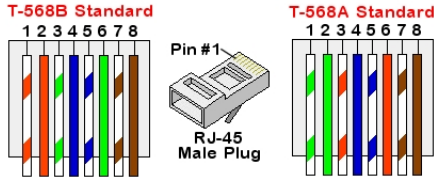

Figure 26: Standard cable wiring
- c. Insert the eight wires into an RJ45 connector, as described in *Figure 26*
8. For the switch/router side, use a pre-terminated cable or use a crimper to prepare an RJ45 communication connector: Insert the eight wires into the RJ45 connector in the same order as above (*Figure 26*).